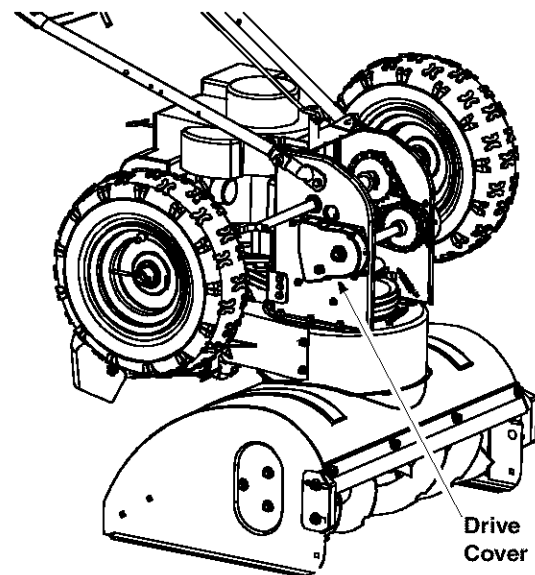

Figure 35
- Remove the four screws securing the left drive cover to the frame. Remove the drive cover from the side of the frame. See Figure 35.